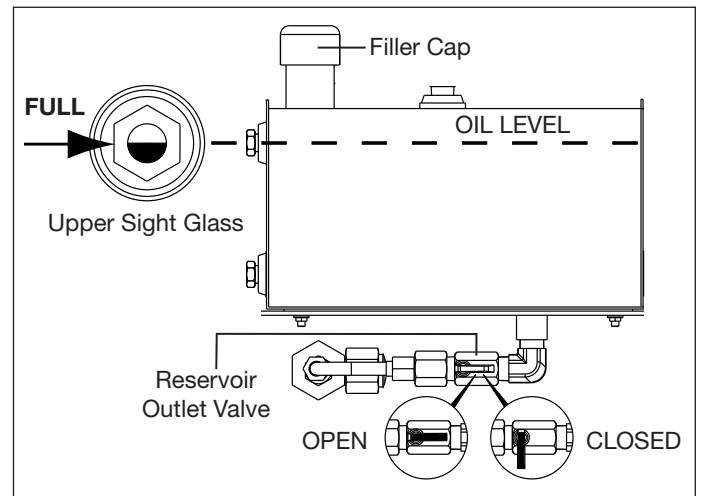

Figure 4, Hydraulic Oil Reservoir
- Be sure that the reservoir outlet valve is in the open position. See Figure 4.
The reservoir is FULL when the oil level in the upper sight glass is about halfway up, as shown in Figure 4. Oil capacity is approximately 1 US gallon [3,8 liters]. Use Enerpac Type HF Oil.